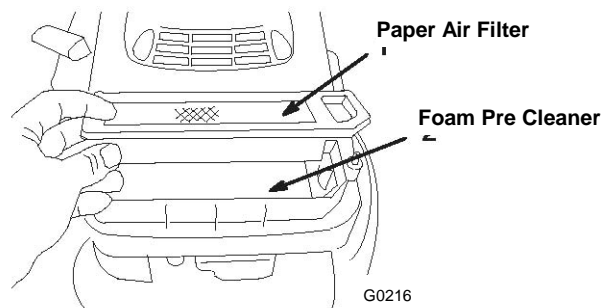

Figure 17
6. Remove the foam pre-cleaner and wash it with a mild detergent and water, then blot it dry (Fig 17).